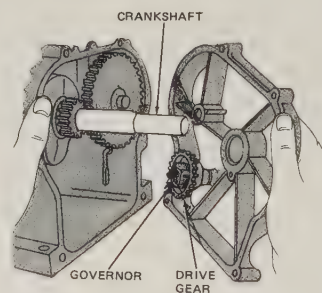

FIG. 18-21 Location of an internally mounted governor on one engine.
**Internally Mounted Centrifugal Governor** If the governor is mounted inside the engine crankcase, as shown in Fig. 18-21, disassemble the engine to gain access to the governor. These governors sometimes are more complicated in design. Be especially careful to note the relationship of all parts before disassembling the governor.